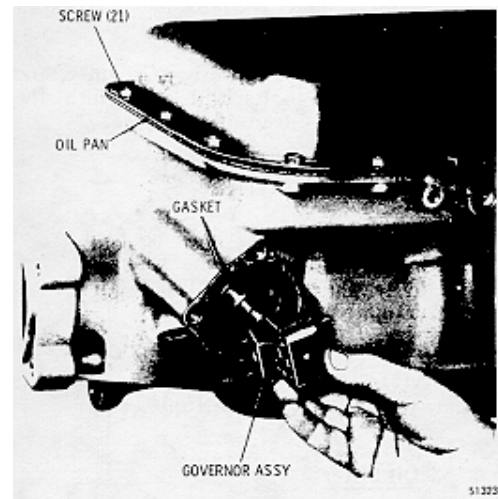

Fig. 7-34. Installing governor assembly
(1) Install the governor cover gasket onto the transmission housing, using oil soluble grease to retain it (Fig. 7-34).
(2) Install the governor assembly by pushing it inward with a slight rotation counterclockwise (Fig. 7-34).